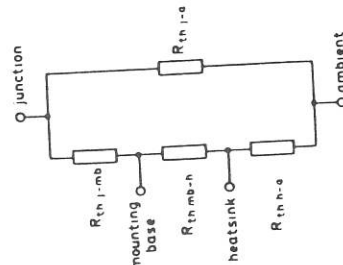

Fig. 3.
a. The various components of junction temperature rise above ambient are illustrated in Fig. 3.